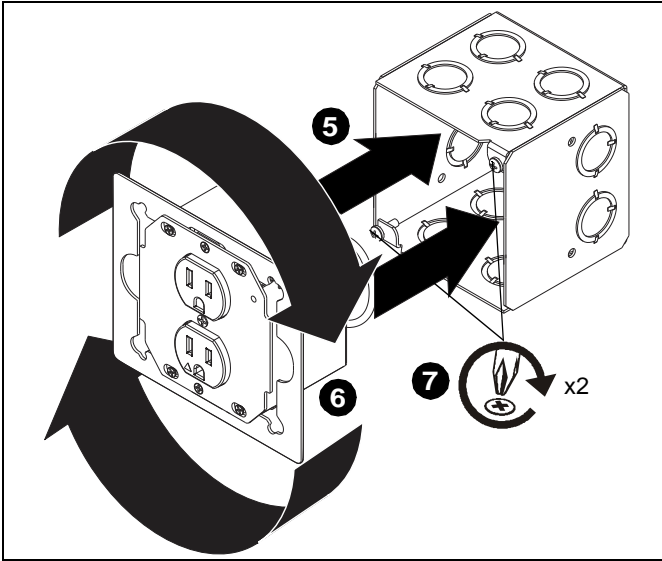

Figure 4
5. Replace the outlet box into the EGX-SF2 housing. (See Figure 4)
6. Rotate outlet box clockwise until it is in proper position to be secured to the EGX-SF2 housing. (See Figure 4)
7. Tighten two Phillips screws to secure outlet box to EGX-SF2 housing. (See Figure 4)